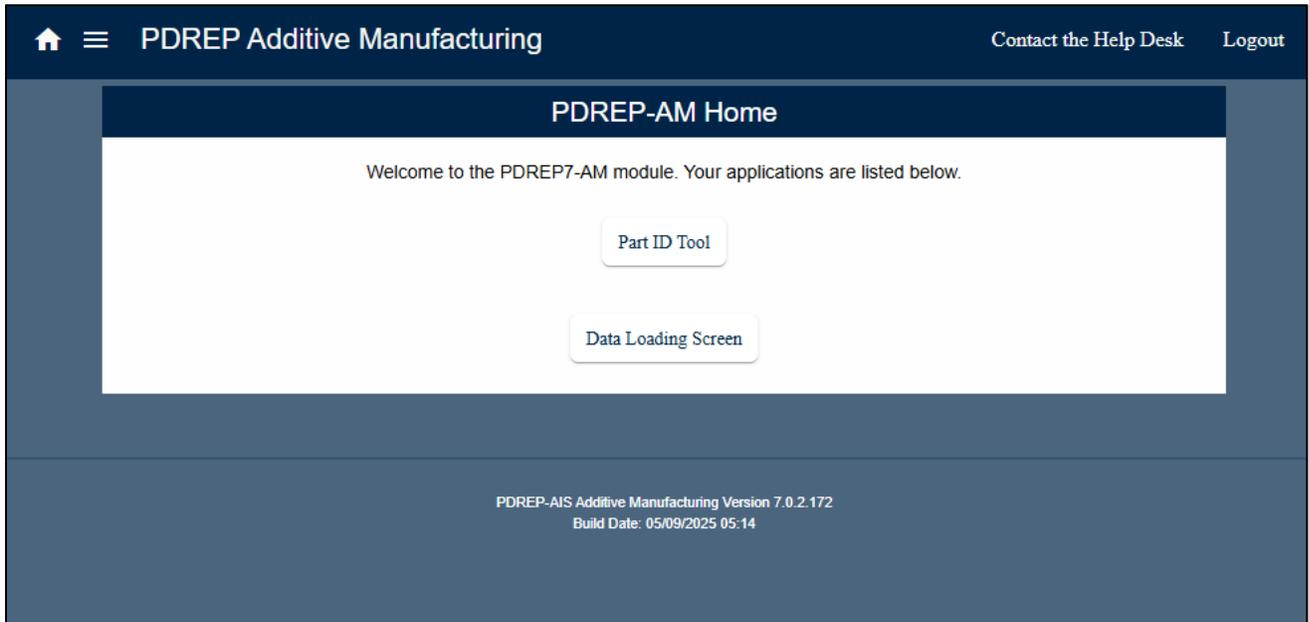

Figure 3.1
- A. After clicking 'PDREP7 AM Module', you will be redirected to the PDREP 7 AM landing page (see **Figure 3.1**).